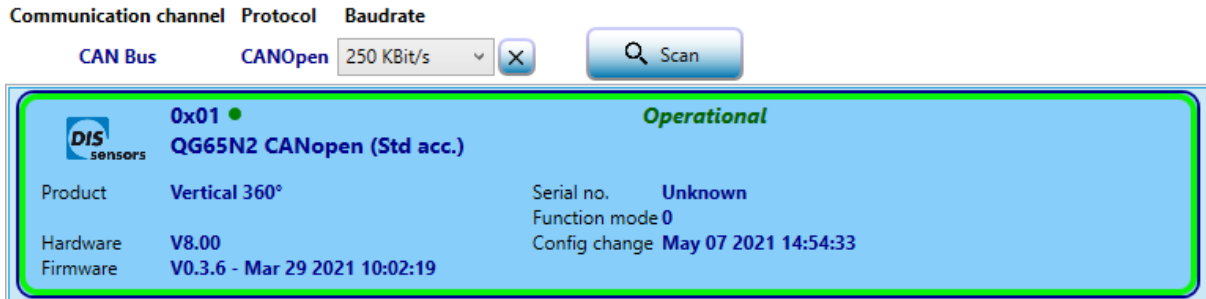

Figure 20 - Sensor detection
- **Sensor detection.** Click , the software will scan the CAN bus and find the connected sensors. Basic information such as product name, serial number, etc. will be shown as in Figure 20.